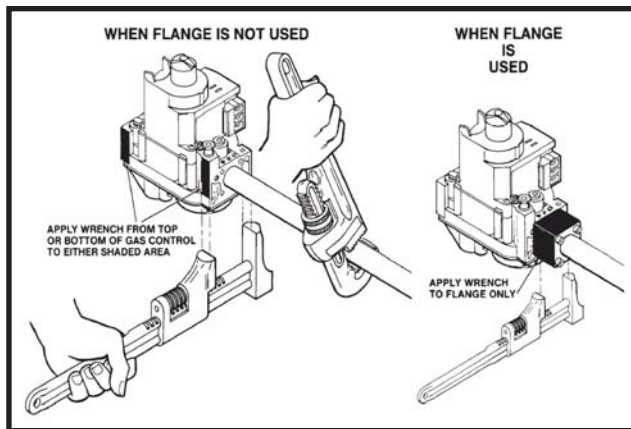

FIG. 17 Wrench
7. Connect pipe to gas valve or manifold inlet. Use wrench to square ends of the gas valve (FIG. 17).